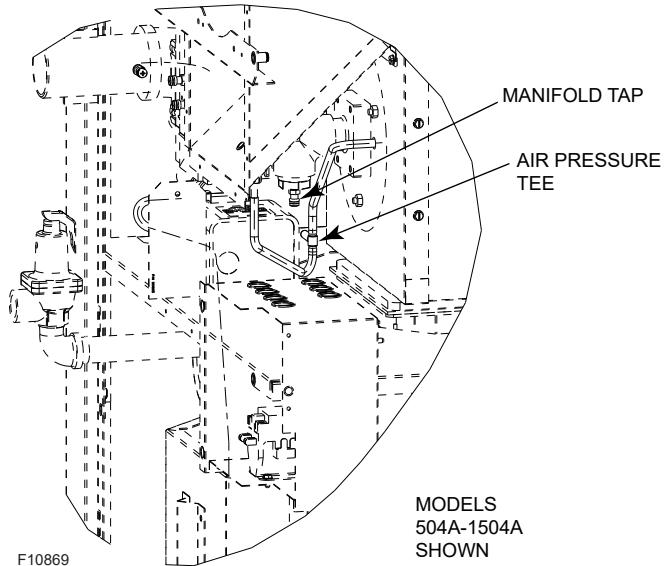

Figure 44. Air Pressure Tee
3. Attach (1) 12" (305 mm) scale manometer on the fan suction pressure hose. Pull black cap from air pressure tee as shown in **Figure 44** and connect the manometer. NOTE: Retain caps for reinstallation later.